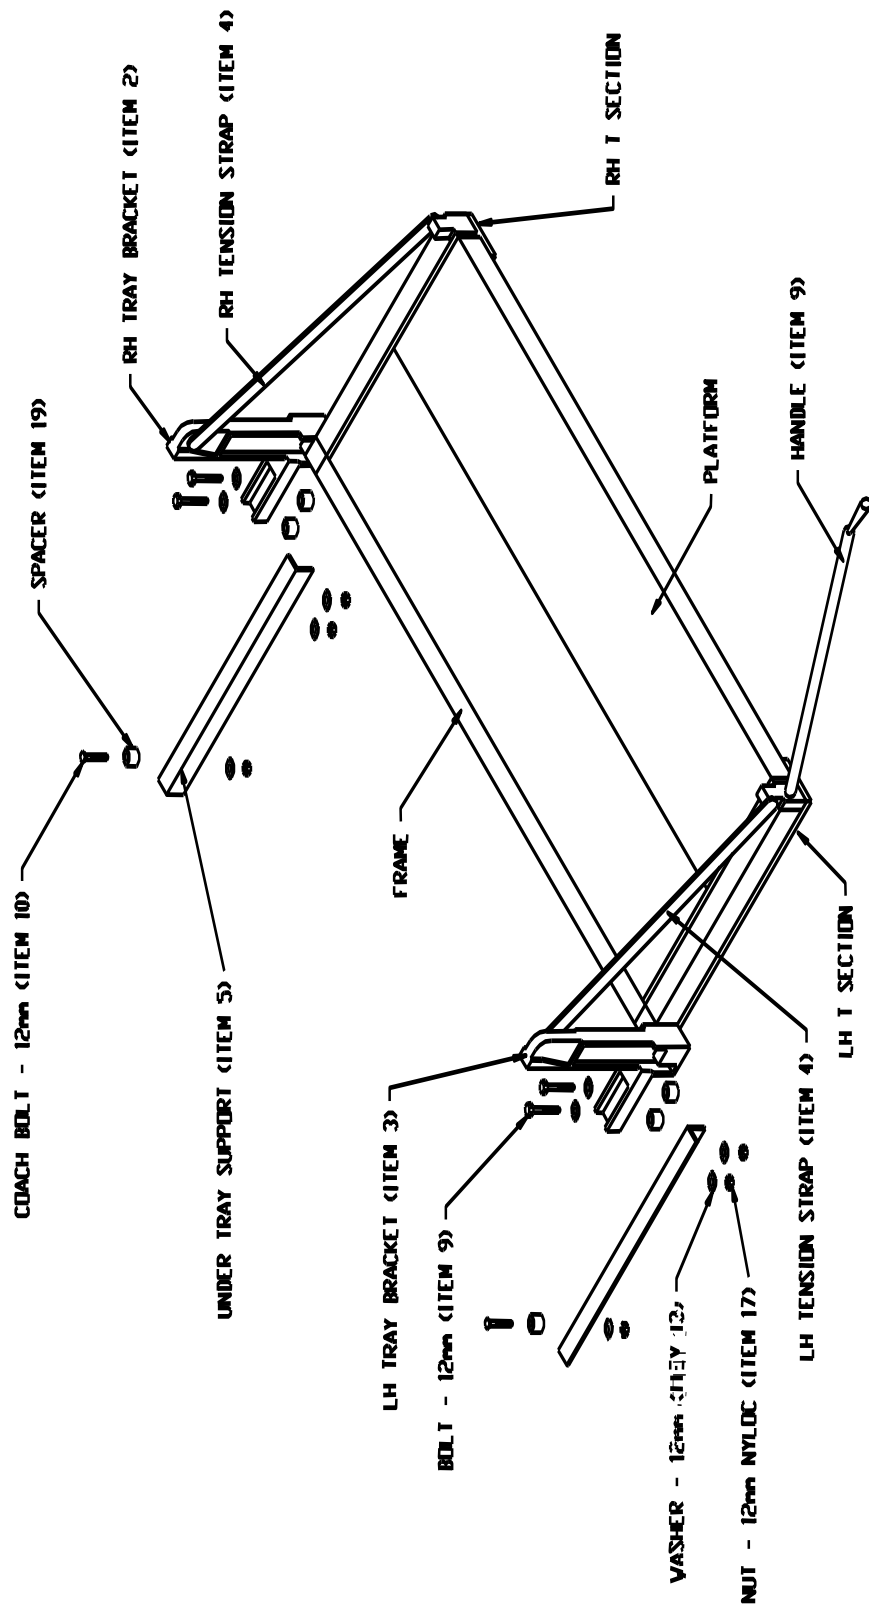

Figure 1 - LycoLoader Assembly Drawing
* Refer to Figure 1 on Page 6 for further details.